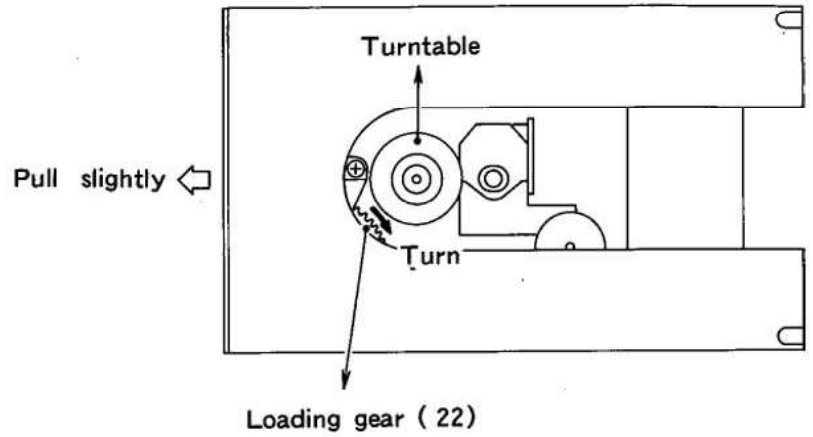

Figure 8
3. Turn loading gear clockwise with a small screwdriver (max. 1/2 turn) while pulling the tray slightly. (See Figure 8)